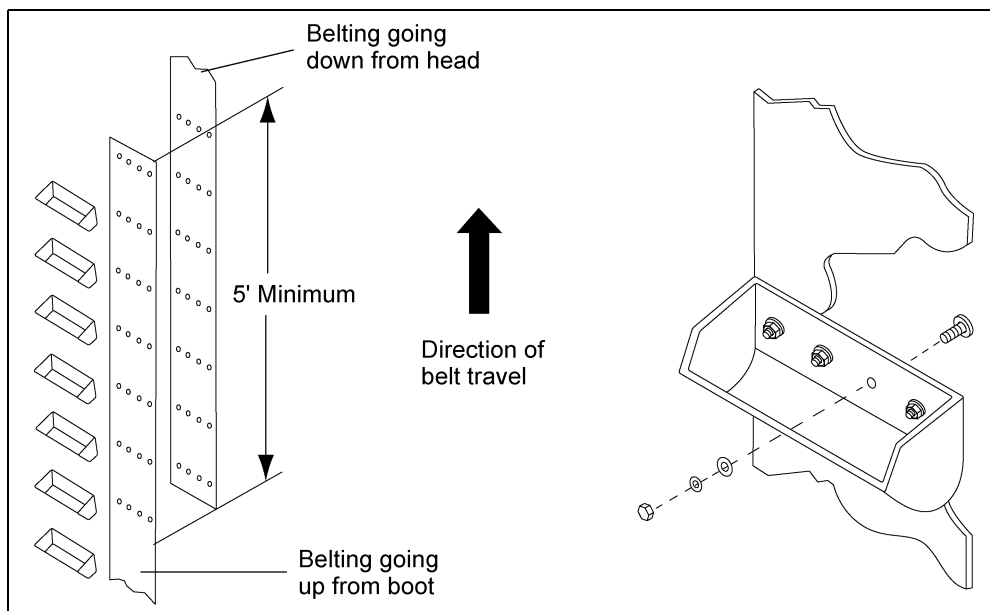

Figure 10A *Belt Splicing*
1. When overlap splicing, draw a 5' minimum of the belt coming up from the bottom of the boot over belt hanging down from head. *(See Figure 10A.)*
(See Figure 10A on Page 25.)